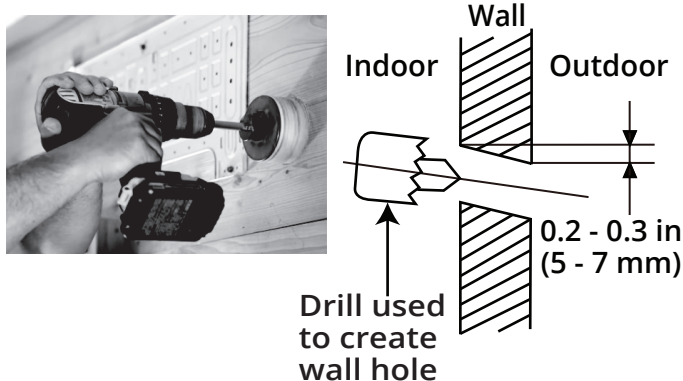

Fig. 5.5
2. Using a core drill, with a 3.54 in (90 mm) diameter, drill a hole in the wall at a slight downward angle, so that the indoor end of the hole is higher than the outdoor end of the hole, by approximately 0.2 in to 0.275 in (5 mm to 7 mm). This will ensure proper water drainage from the indoor unit (refer to Fig. 5.5).